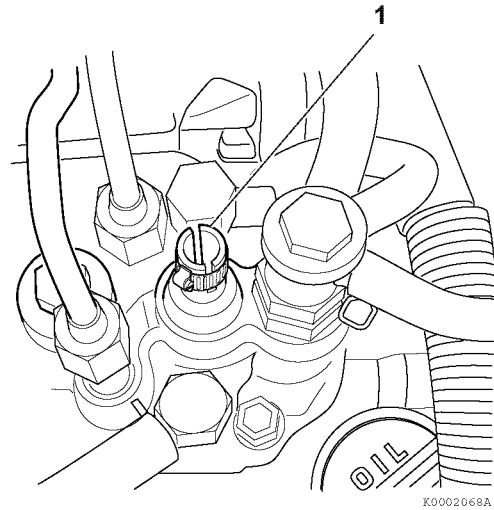
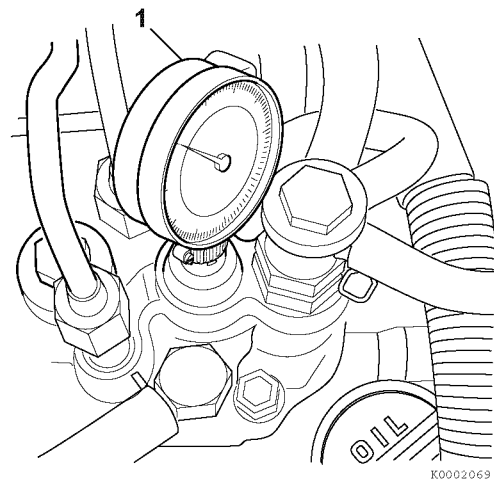

Figure 7-42
Figure 7-43
*Note: Use the YANMAR part no. 158090-51831 M14 adapter for the MP2 fuel injection pumps (TNV82 - 88 model engines) or YANMAR part no. 158090-51841 for the M16 adapter used on the MP4 fuel injection pumps (TNV94 - 106 model engines) and YANMAR part no. 23000-013000 plunger adapter clamp (1, **Figure 7-42**).*
5. Install a dial indicator (1, **Figure 7-43**), Mitutoyo No. 2050SB or equivalent, with a 30 mm extension, YANMAR Part No. 158090-51870 or Mitutoyo No. 303613, into the adapter. Secure with the YANMAR Part No. 23000-013000 plunger adapter clamp (1, **Figure 7-42**) at approximately the mid-point of its travel.